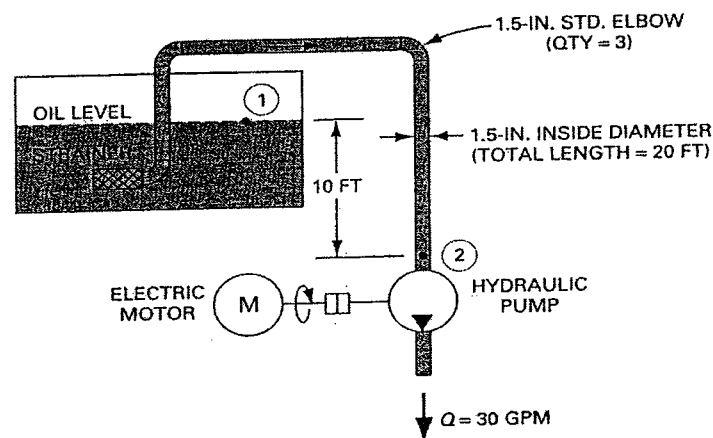

Figure 2A (Rajah 2A)
2. [a] The oil tank for the hydraulic system of Figure 2A is air-pressurized at 10 psi. The inlet line to the pump is 10 ft below the oil level. The pump flow rate is 30 gpm. Find the pressure at station 2. The specific gravity of the oil is 0.90, and the kinematic viscosity of the oil is 100 cS. Assume that the pressure drop across the strainer is 1 psi. (1 in = 2.5cm and 1ft =30cm), K factor for steel elbow = 0.9, water density = 62.4lb/ft3.